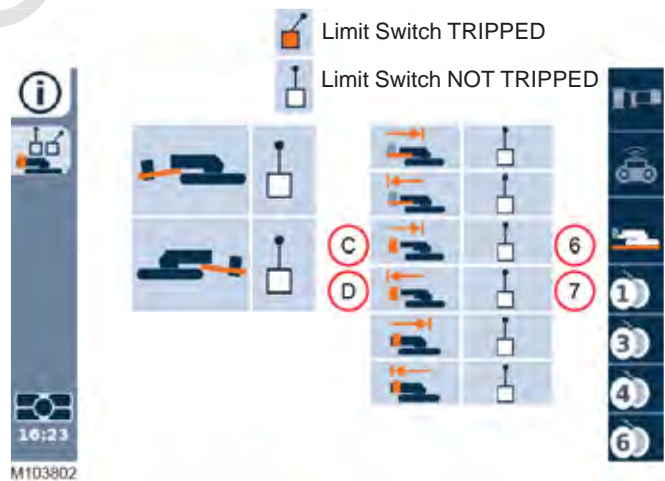

FIGURE 6-17
- a. Access the limit switch status information screen in the main display (Figure 6-17).
- c. In the main display (Figure 6-17), the minimum position (C) limit switch icon (6) must indicate that the limit switch is TRIPPED.
- e. in the main display (Figure 6-17), the maximum position (D) limit switch icon (7) must indicate that the limit switch is TRIPPED.